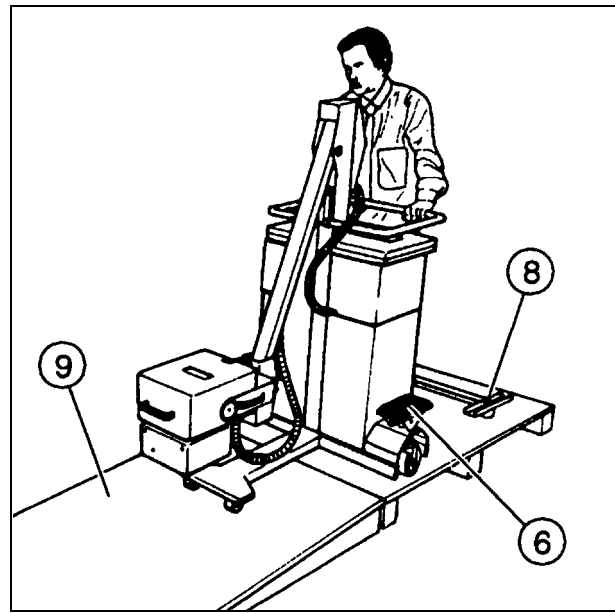

Fig. 3
- Bring the foot pedal from the locked position (5/Fig. 2) into the maneuvering position (6/Fig. 3). For further foot pedal positions refer to the operator manual.
- Push the POLYMOBIL III over the rail (8/Fig. 3) and move it over the ramp (9/Fig. 3) away from the pallet.